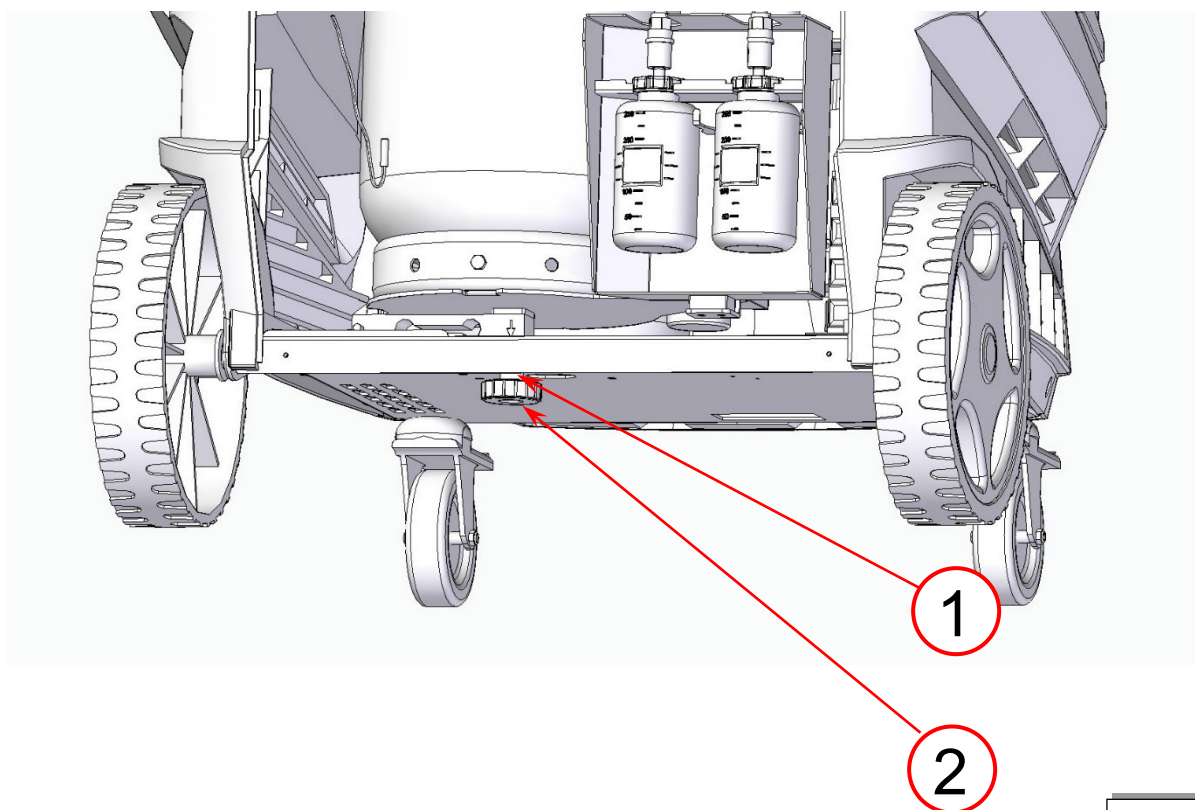

FIG. 3
1. In order to remove the protections under the refrigerant scale the locking nut has to be untightened (ref.1, Fig.3), the knob (ref.2, Fig.3) has to be unscrewed, removed and stored in a safe place.
2. Tighten the knob (ref.2, Fig.3) until the display signals ZERO availability. Tighten the nut (ref.1, Fig.3)